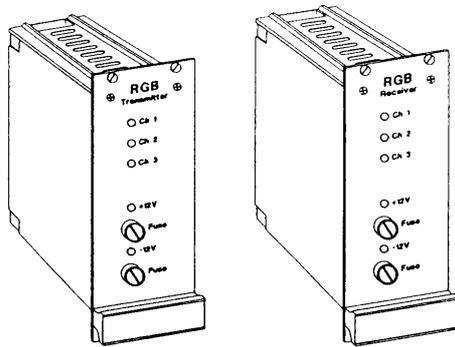

Figure 2: Transmitter/Receiver Euromodules
- 1 to 3 channel 19" subrack mounted Euromodules (Fig. 2).